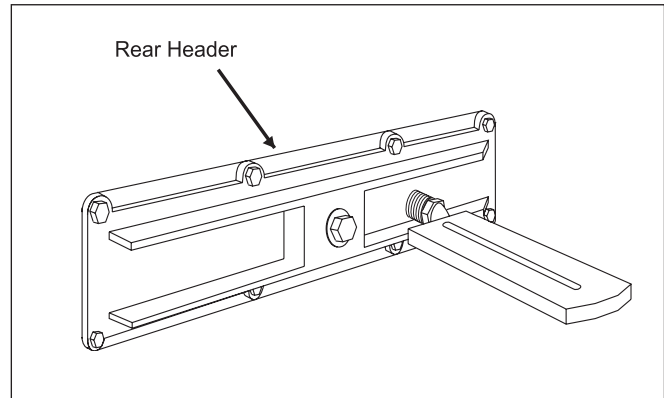

Figure 8. Thermometer Location.
2. Install a thermometer in the threaded opening in the rear header as shown in Figure 8.